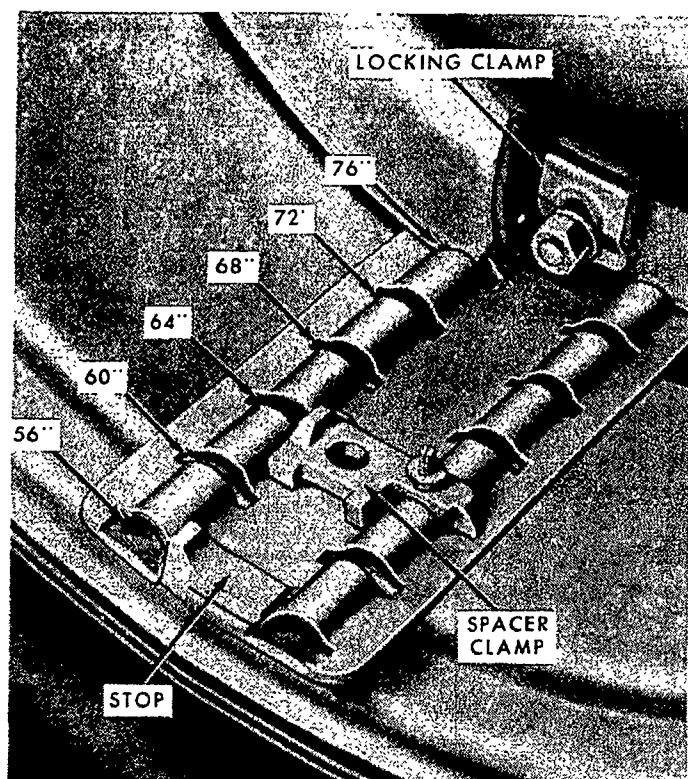

Figure 8—Tread Width Adjustments
The rear wheels may be moved to any desired width in the tread range of 56 to 76 inches without raising the tractor wheels, Figure 8. Tread widths of 64 to 84 inches can be obtained by reversing the wheels, Figure 9. Engine power is utilized to move the wheel in and out.
Changing the tread width with a power adjusted wheel is similar to turning a bolt in a nut. The rim acts as the nut, with slotted channel bars which serve as threads. The wheel disc acts as a bolt, having a helical shape with a 2 inch pitch. *Each wheel must be adjusted separately.* The different tread widths possible with the power adjusted wheel are shown in Figure 8. Each complete revolution of the wheel changes the tread width 2 inches. By placing the
4. Place the spacer clamp in the channel thread bar for the desired setting, as shown in Figure 8. Insert the oval head bolt in the channel slot, turn it so that the bolt head is secure in the